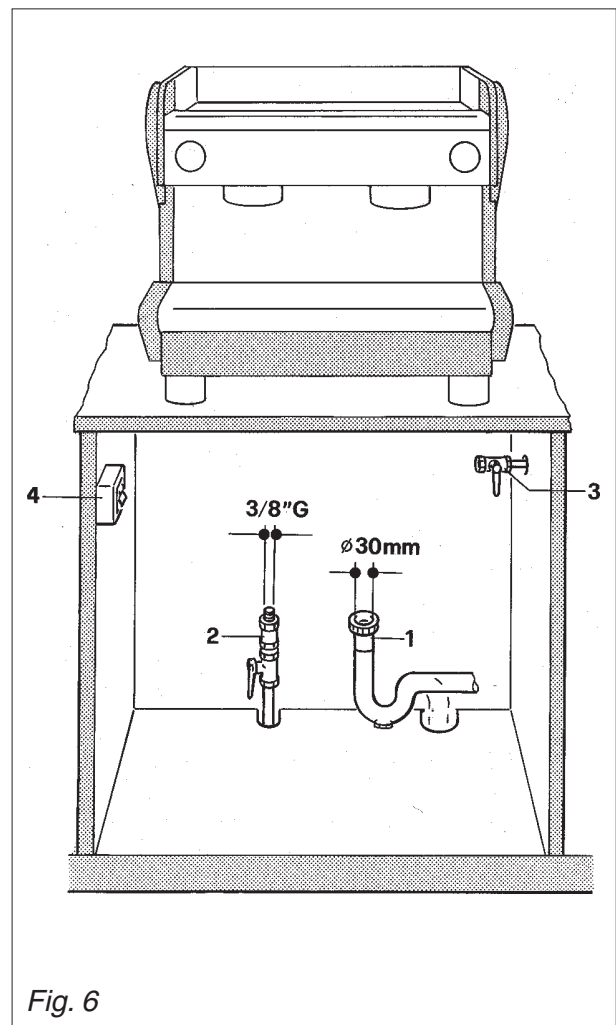

Fig. 6
6.1.1. Water and gas supply (Fig.6)
In both cases it is necessary to provide an automatic differential switch (Fig. 6) at the start of the power cable, complete with magnetic release elements in accordance with the identification plate details (Fig. 1). The contact opening must be equivalent or over 3 mm.